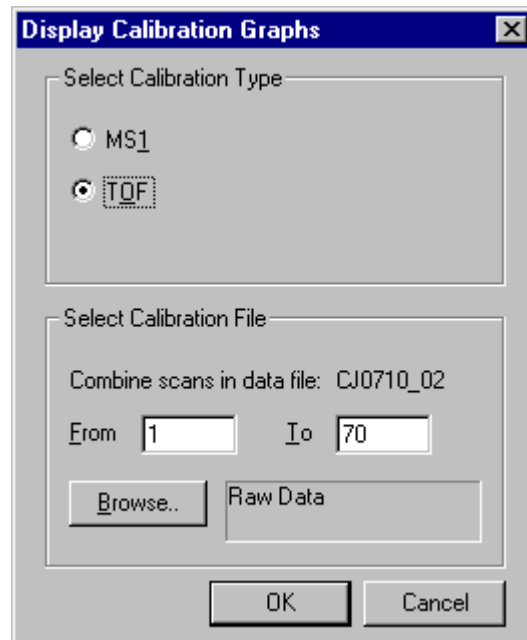

Figure 7-9 The Display Calibration Graphs Dialog
3. Select **Calibrate > From File**. This will invoke the **Display Calibration Graphs** dialog (Figure 7-9).